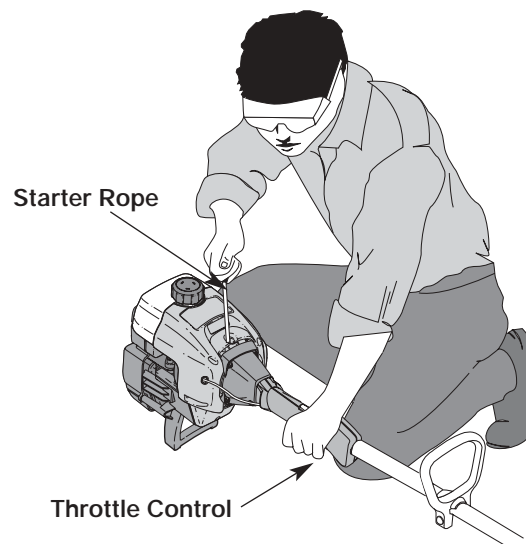

Figure 8
WARNING: Avoid accidental starting. Make sure you are in the starting position when pulling the starter rope. See Figure 8. To avoid serious injury, the operator and unit must be in a stable position while starting.
5. With the unit in the starting position (see Figure 8), squeeze the throttle control to the wide open (full throttle) position. Pull the starter rope briskly 5 times while still in the **FULL** choke (A |←|) position. If the engine attempts to run before the fifth pull, proceed to step 6.
7. Pull starter rope 1 to 3 times, briskly, to start the engine. See Figure 8.
1. Release your hand from the throttle control. See Figure 8. Allow the engine to cool down by idling.